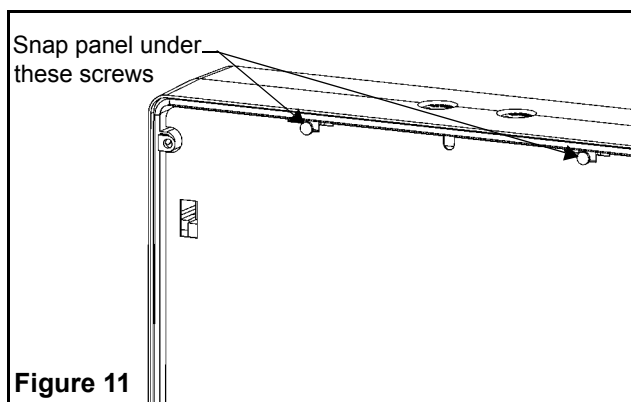

Figure 11
4. Install the diffuser panel by snapping the top edges under the two top retention screws and then snapping the bottom edges under the two bottom retention screws (see fig.11).